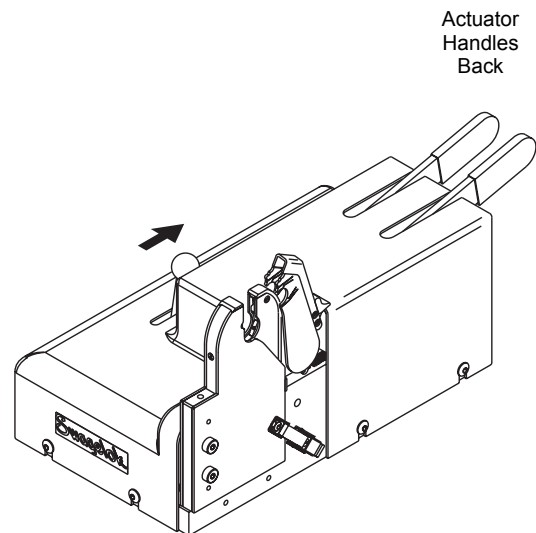

Figure 31 *Positioning the Weld Head for a Tool Change*
2. Push and hold the tool change lever back while pushing each handle to its rear-most position. Once each handle is back, release the tool change lever to lock the handles in the tool change position. See Figure 31.